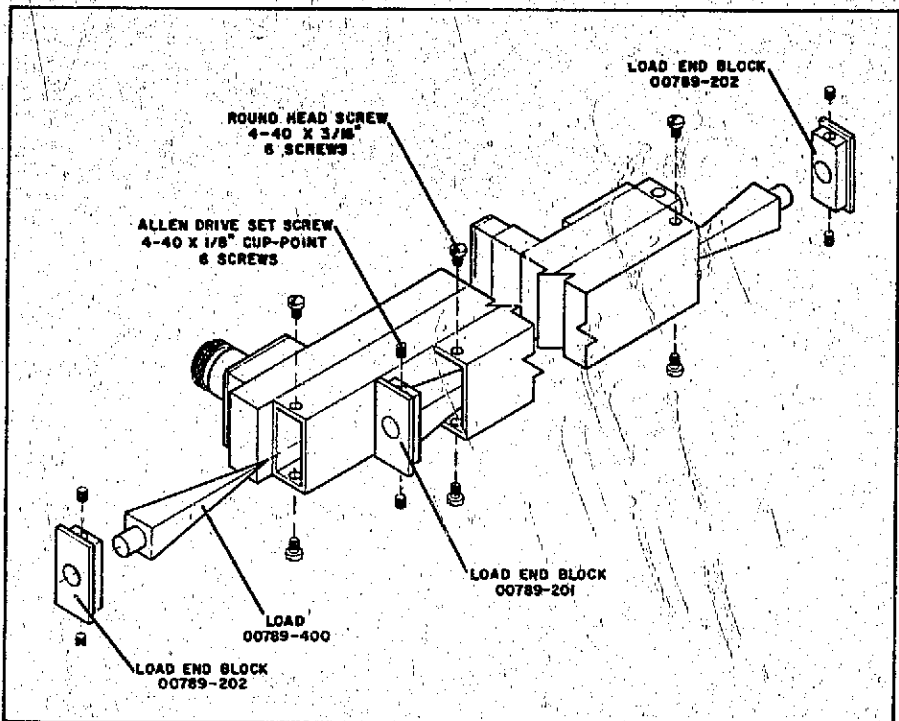

Figure 6. 789C Load Assembly
- Refer to Figure 6. Remove two round-head retaining screws and the load assembly.